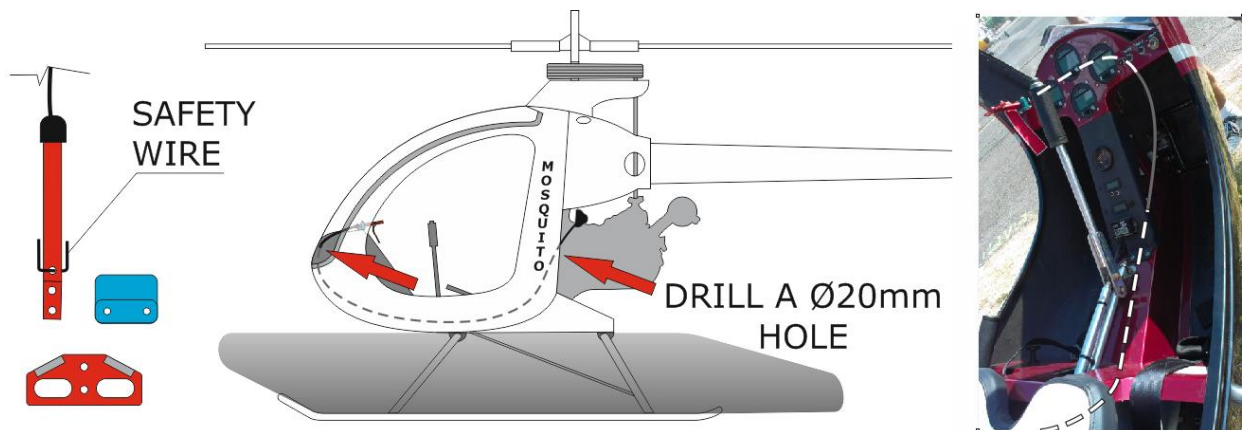

Figure 6
- 3) Disassemble the trigger handle. Instead of safety pin with little flag put a $\varnothing 1,5-2\text{mm}$ safety wire! Drill a $\varnothing 20\text{ mm}$ hole through the left rear side of helicopter's firewall and insert the handle body with bowden through the fuselage inside the cockpit. Assemble the trigger handle and **secure it with the safety pin with little flag again!** Fasten the trigger handle to the left top side of the instrument panel. The example of bowden installation is shown in the figure 6.